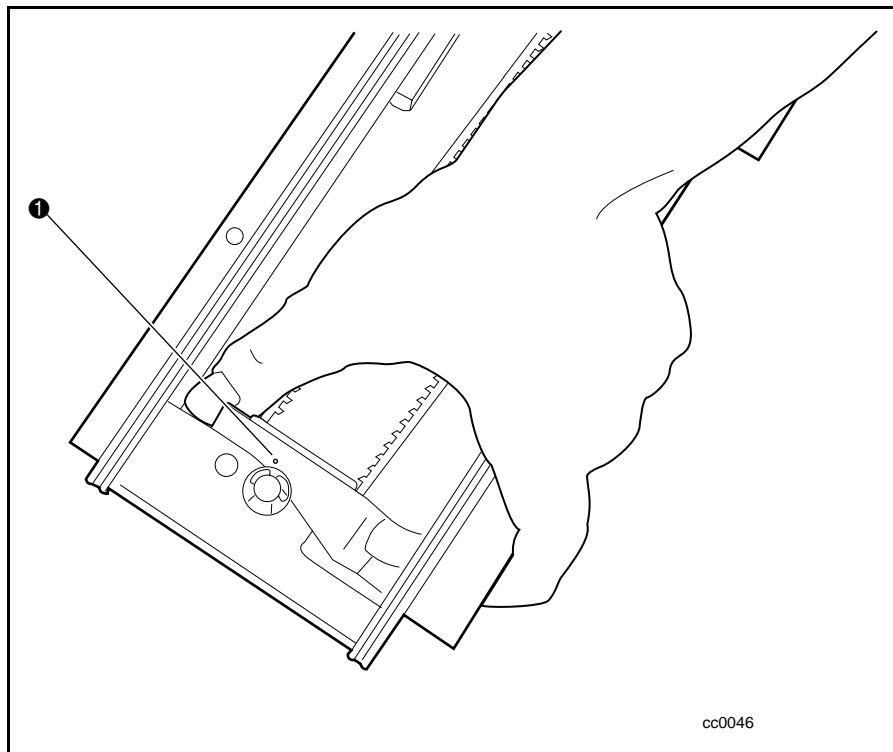

Figure C-27. Aligning the belt tensioner ramp
1. Push on the belt tensioner ramp to align its small hole with the hole in the bottom pulley assembly (❶ Figure C-27).